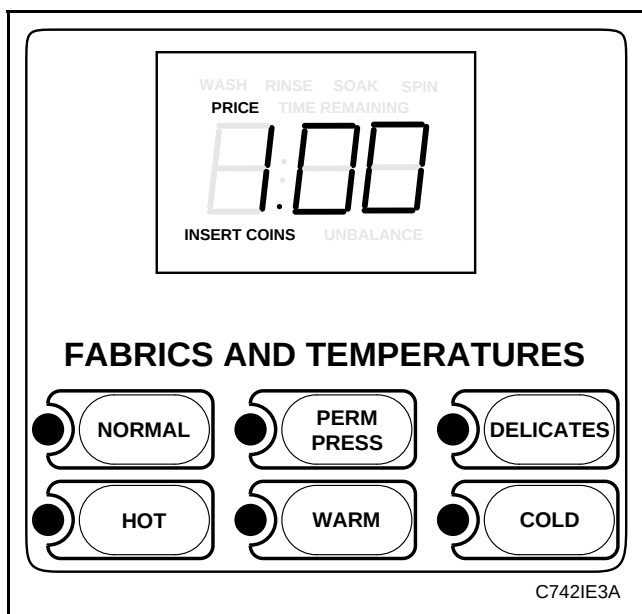

Figure 2
When power is applied to the washer, the control will display *PRICE*, *INSERT COINS*, the decimal point, and the vend price. The *PRICE* and *INSERT COINS* light will remain lit until the vend price has been satisfied. The default cycle setting is PERM PRESS, the wash water fill temperature is WARM, and the rinse water temperature is COLD. The LED's will flash on PERM PRESS and will be lit on WARM at the start of the cycle. See **Figure 2**. These default settings are owner programmable. Refer to **Section VIII**.
When a cycle is complete, the control will display *TIME REMAINING*, "00" until the washer door is opened, a key is pressed, or a coin is entered. When one of these three options occur, the display will revert back to the default mode. See **Figure 2**.
This feature allows the user to return the Electronic Control back to the default mode if coins have been entered but the full vend price has not yet been satisfied. See **Figure 2.**
1. Be sure the washer is in the default mode before continuing to step 2. See **Figure 2**. If the washer is in an active cycle, rapid advance through the cycle. See the Rapid Advance feature (**Section XII**). If coins have been entered, see the Clear Vend feature (**Section XIII**).